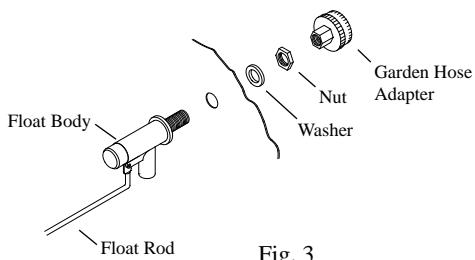

Fig. 3
• **Install float valve.** Refer to figure 3. Install the valve in the provided hole in the corner post (RMMB12, RMMB14) or louvered side (MMB10) using the provided washer and nut. Install the included garden hose adapter to the float as shown if attaching a garden hose to the unit. A 1/4 inch water line may also be used to supply a continuous amount of water to the unit.